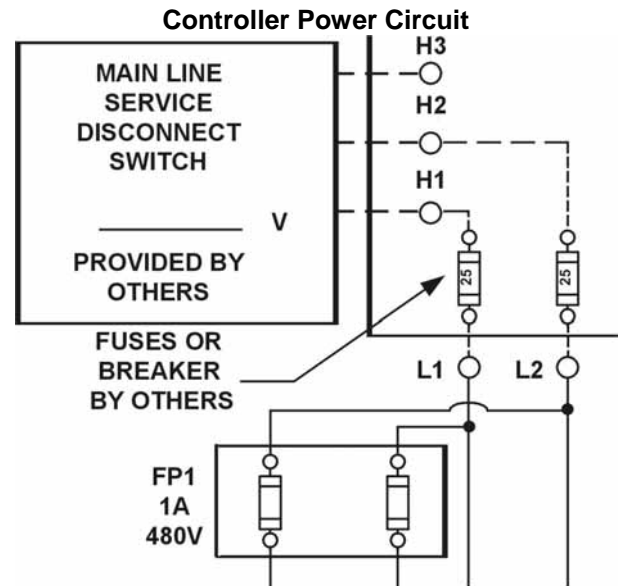

Figure 1-8
- The fourth circuit will only be required if a power transformer is used. A separate fused circuit from the primary side of the power transformer terminals H1 and H2 to the FP1 fuse block on the drive side of the controller. [See Figure 1-8.]